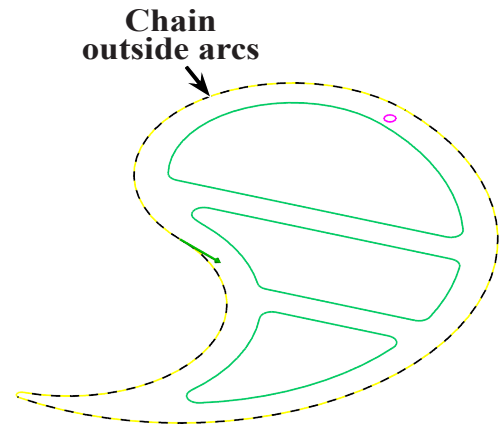

Fig. 38
Step 4. Click **outside arc** to chain, **Fig. 38**.